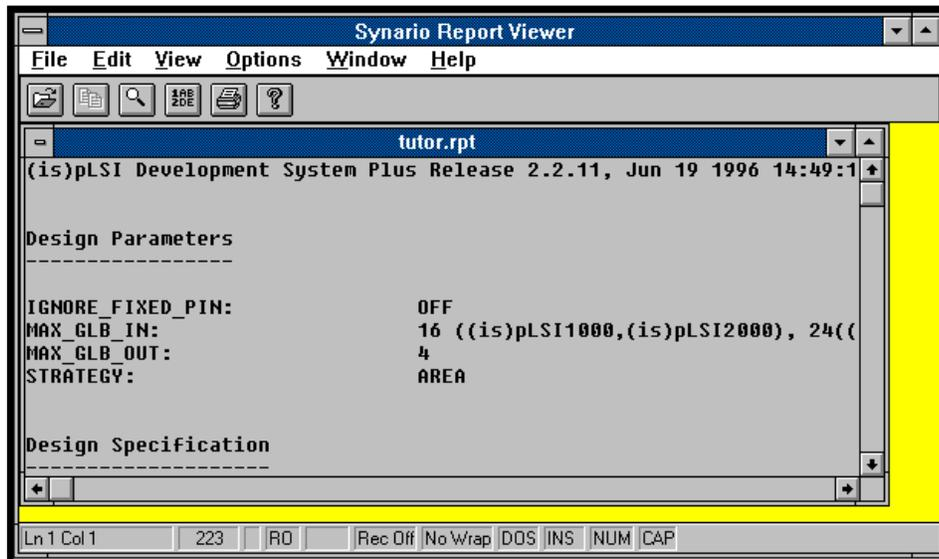

Figure 1-33. Synario Report Viewer and tutor.rpt windows
61. To see all of the statistics related to the fitting of your design, double click on ISP Synario Fitter Report. The `tutor.rpt` window appears within the Synario Report Viewer (Figure 1-33). You can scroll through the report window for your design data.